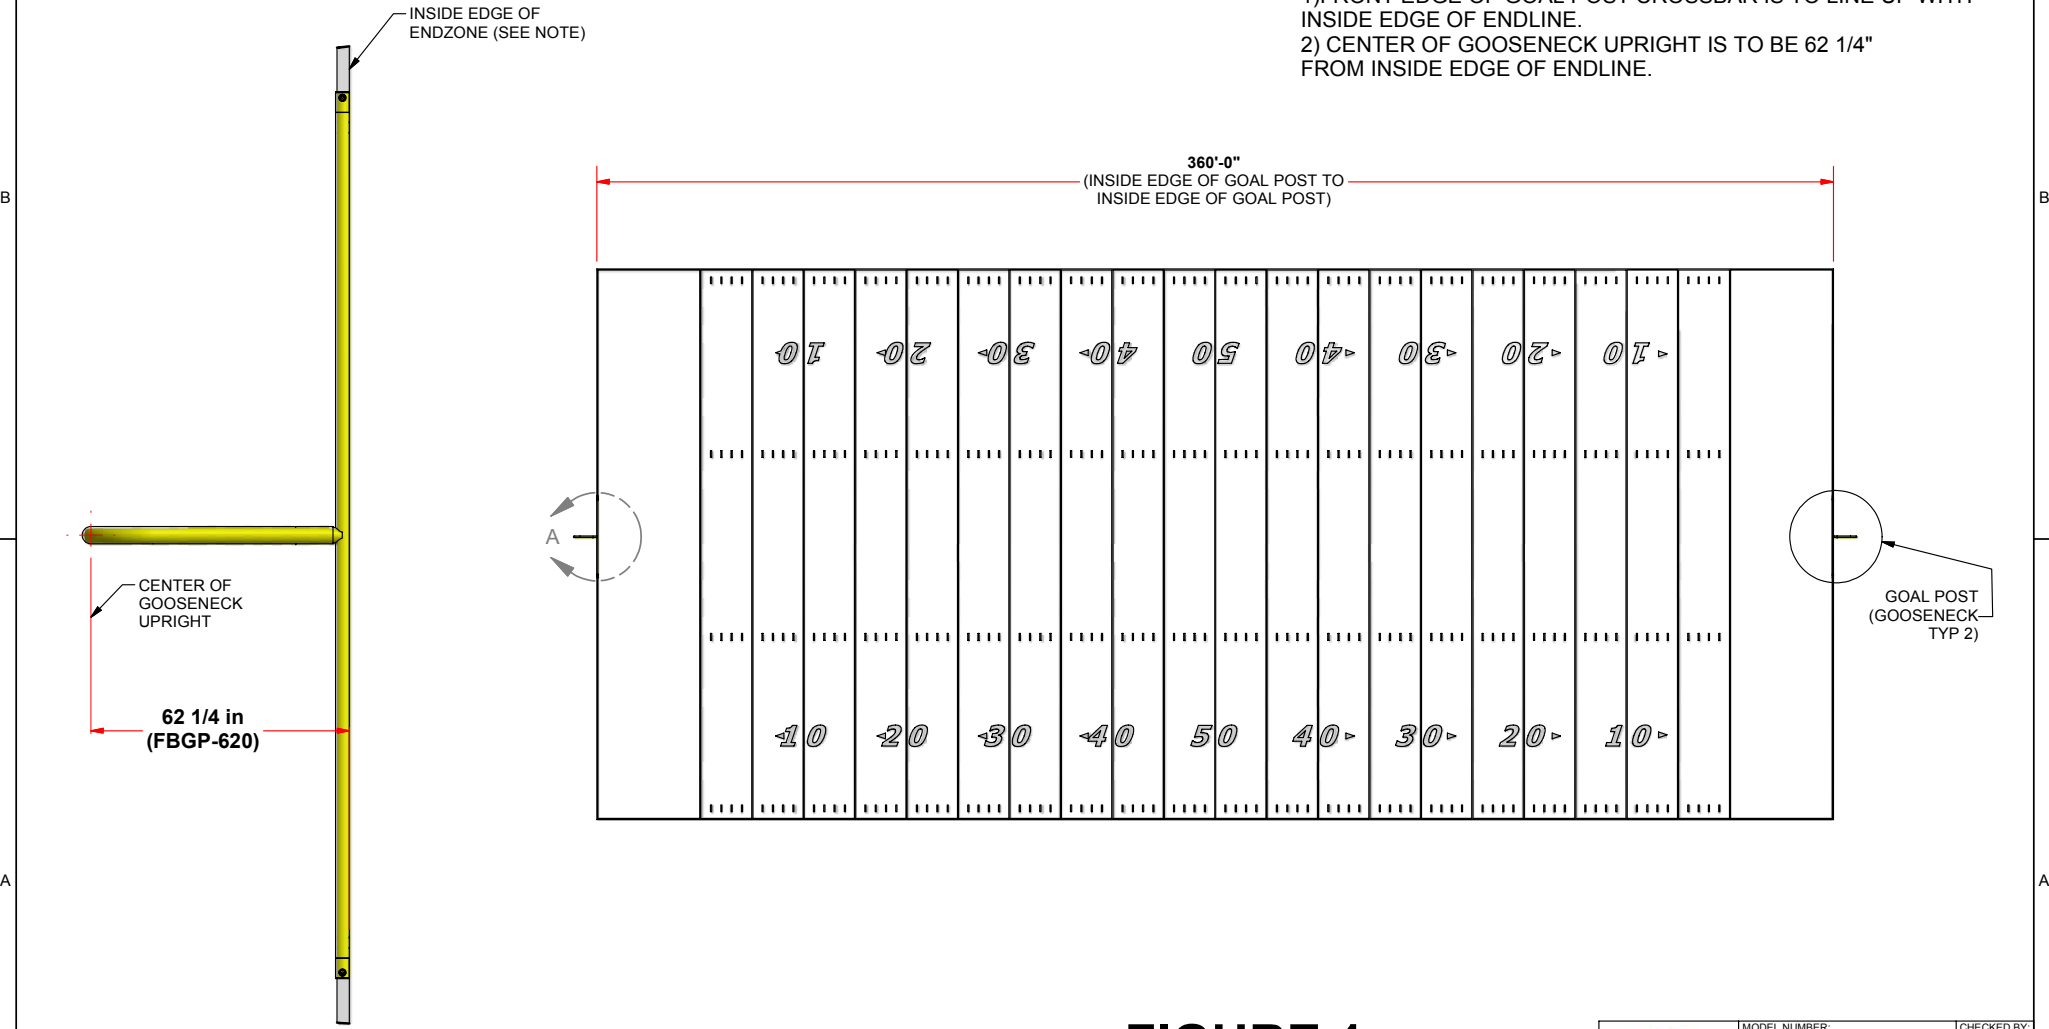
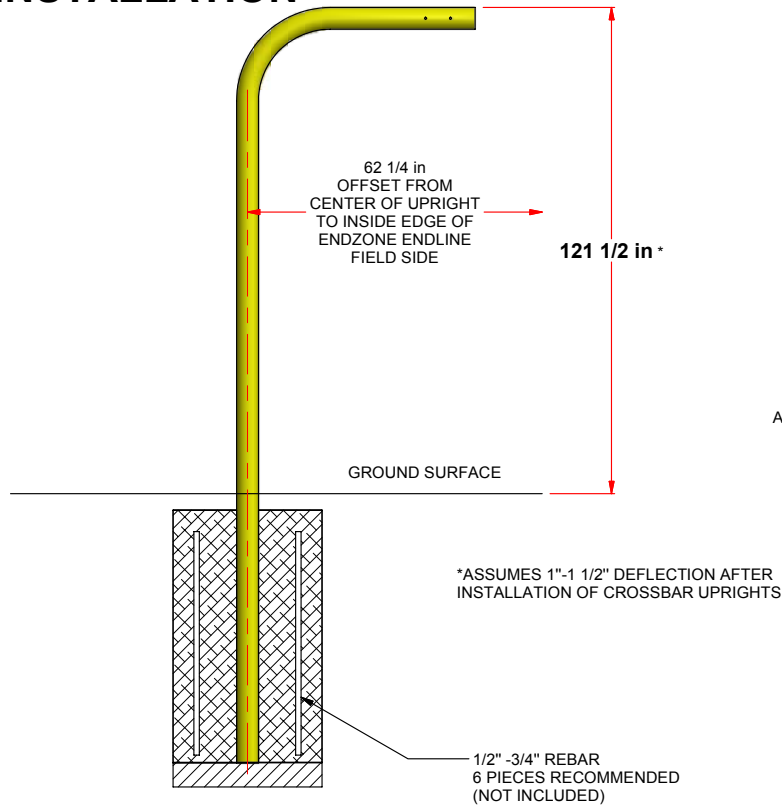
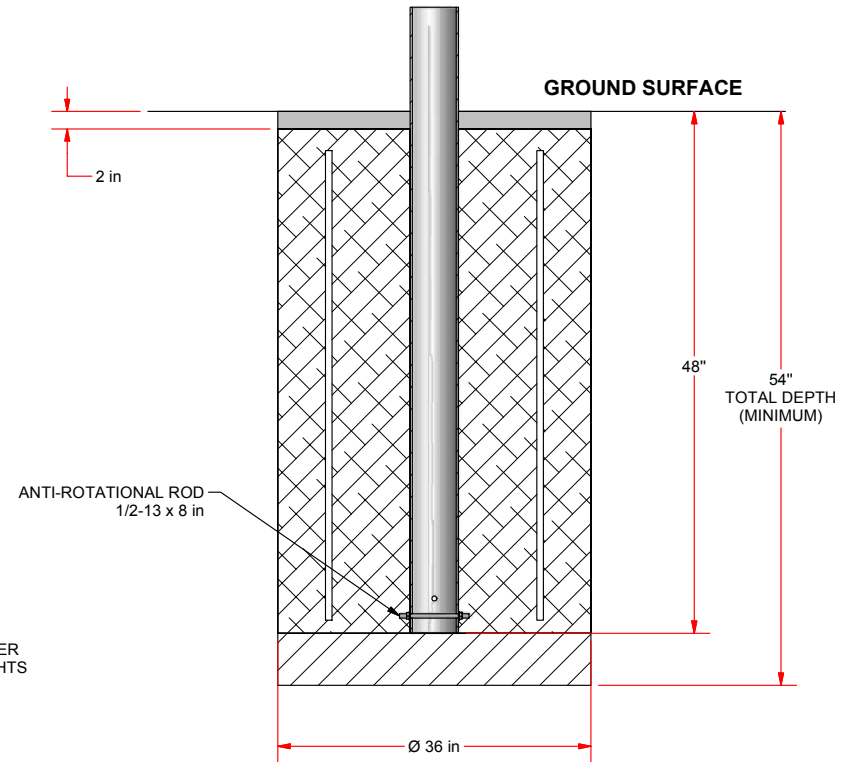
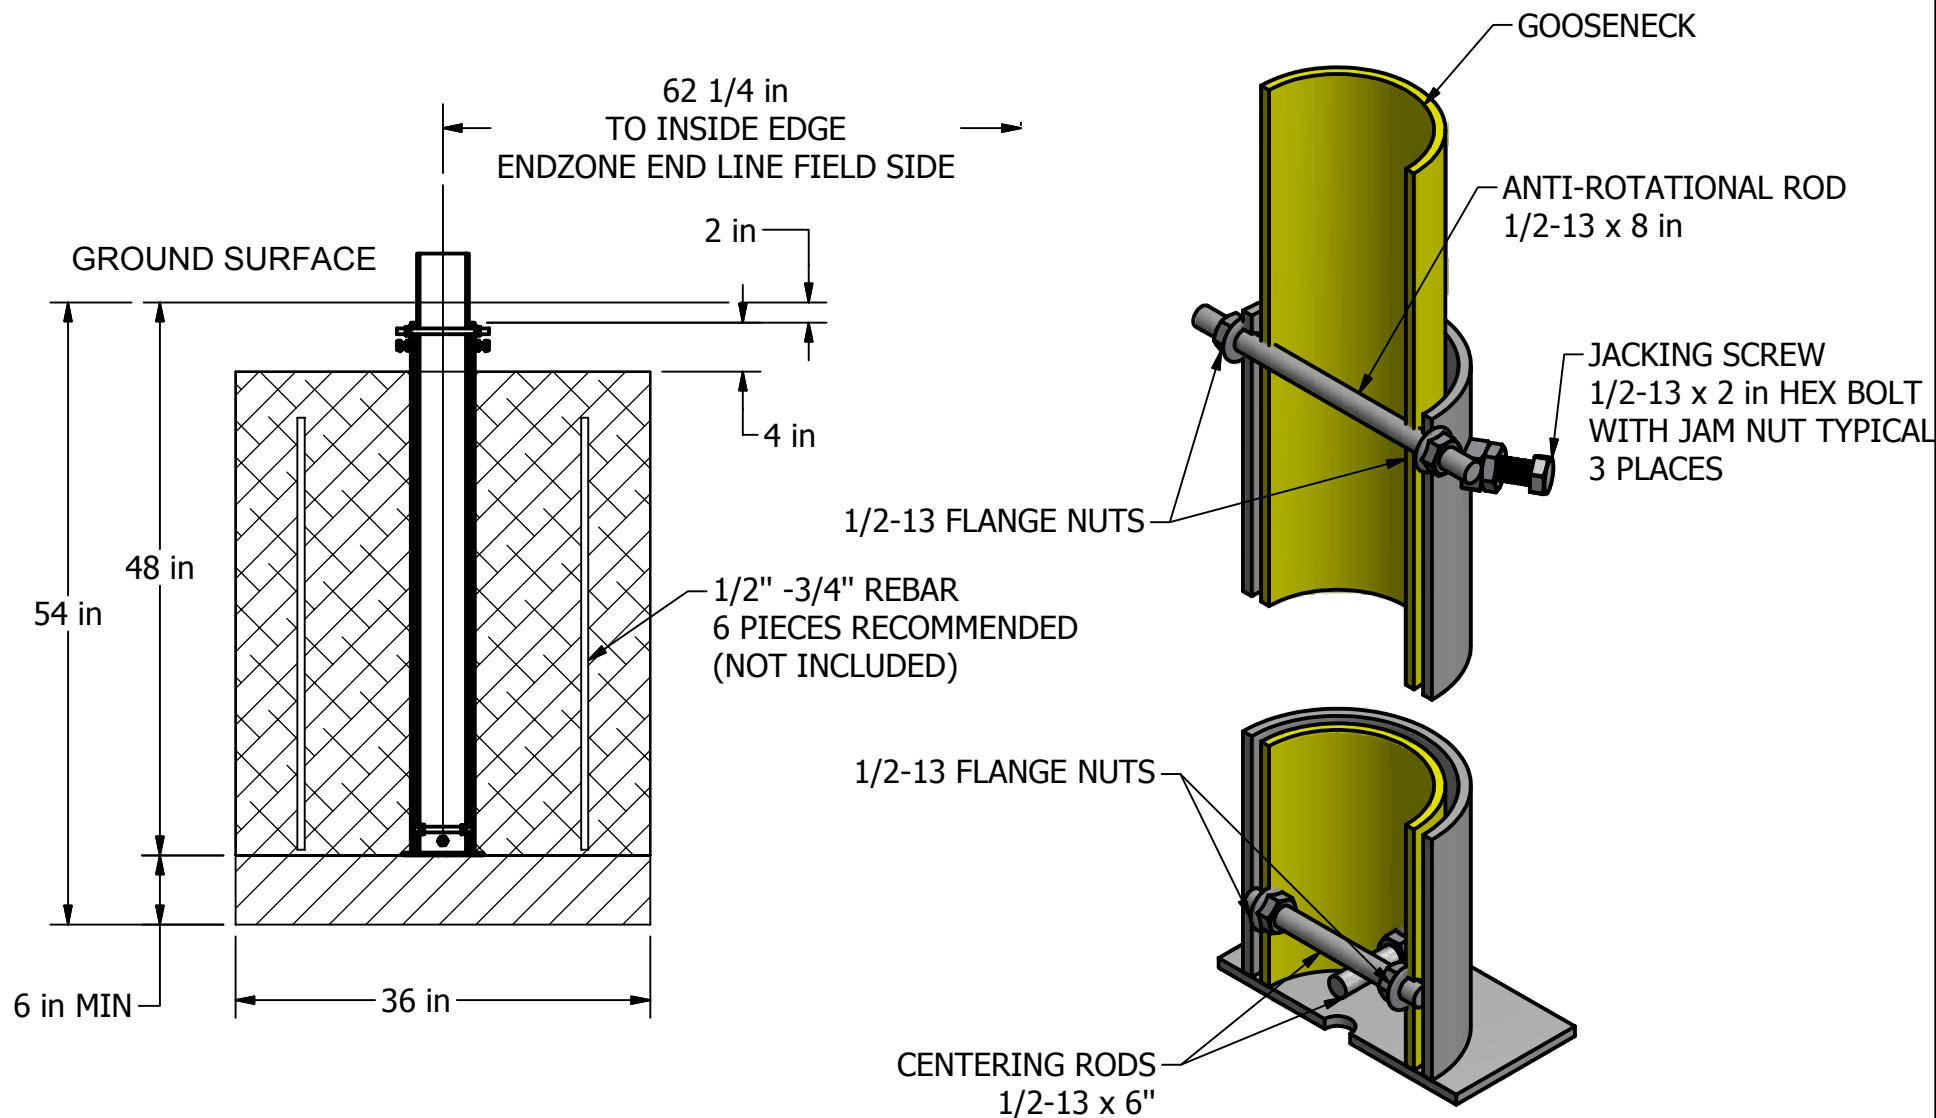

FIGURE 1
FIGURE 2
FIGURE 3
FIGURE 4
- 1) The location of the gooseneck with respect to the field is critical. By rule, the front of the crossbar should be even with the field side (inside) edge of the end line such that the crossbars measure 360 ft apart inside to inside. The distance from the end line to centerline of the bottom upright (gooseneck) is approximately **62 1/4"** for the FBGP-620 series. See Figure 1
- 2) The footing depth is dependant on the type of installation, permanent or semi-permanent. For permanent installations see Figure 3. For a semi-permanent using a ground sleeve (Part No. FBSLV5) see Figure 4, and for a semi-permanent with height adjuster see Figure 5. Materials for the semi-permanent with height adjuster installation (Part No. FBGPGS-5) include the ground sleeve, height adjuster and hardware.
- 1) Excavate the footing hole to the appropriate dimensions shown. See Figure 1 and figure 2 for locating the footing and height of the gooseneck. Use Figure 3 for permanent installations. Use Figure 4 for semi permanent installations with standard ground sleeve (FBSLV5) and Figure 5 for semi-permanent installations with sleeve and height adjuster option (FBGPGS-5).
Attaching top upright to end fitting. See Figure 3